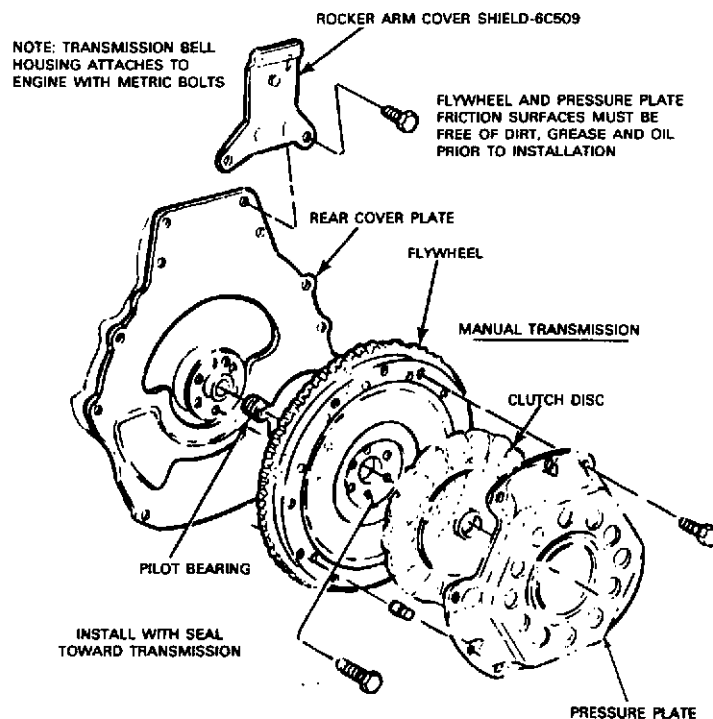

FIG. 50 Flywheel Installation
- Tighten the filter 1/2 turn after the gasket contacts the cylinder block. Fig 50.